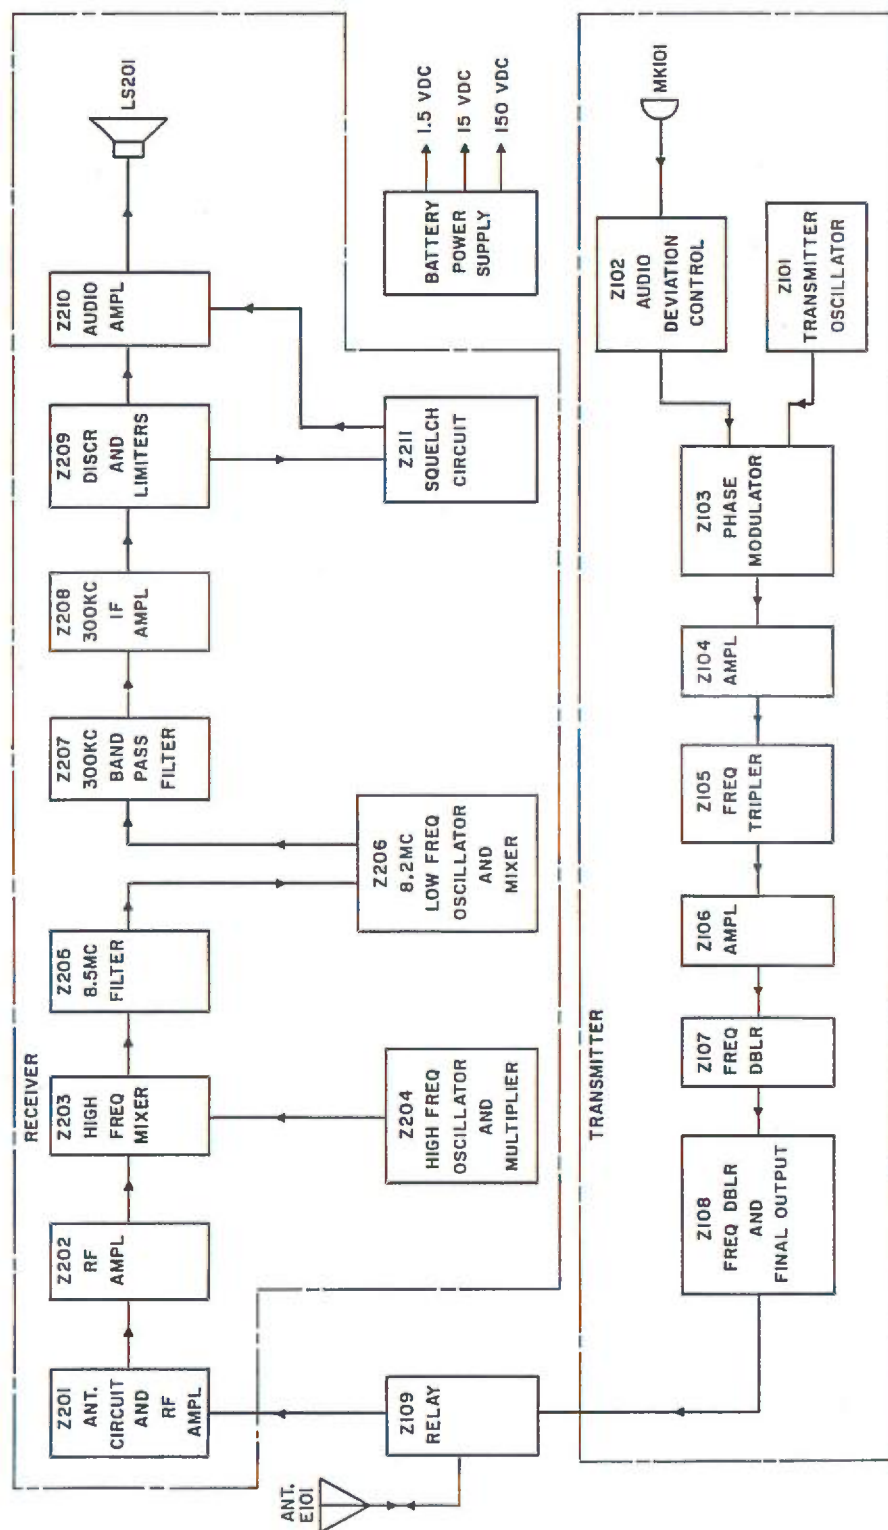

Figure 4-1. Block Diagram of Radio Set AN/PRC-40
Radio Set AN/PRC-40 consists of three functional sections; transmitter, receiver, and battery power supply. The transmitter and receiver are constructed on separate printed circuit boards. Replaceable plug-in assemblies are used throughout the Radio Set. (See table 1-3.) A single antenna is used for both transmitting and receiving. Pushing the "press-to-talk" switch on the microphone actuates a relay which switches the antenna from receiver input to transmitter output. The same relay also switches operating voltages from the receiver to the transmitter. Figure 4-1 is a block diagram of the Radio Set AN/PRC-40. Each block in the receiver and transmitter represents a replaceable plug-in assembly.
a. TRANSMITTER.-The transmitter (figure 4-1) is a phase modulated or indirect FM type. The transmitter consists of nine replaceable plug-in assemblies (Z101 through Z109, including relay circuit Z109), antenna E101, and microphone MK101. Depressing the "press-to-talk" switch on MK101 energizes the relay Z109 which applies operating voltages to the transmitter and switches the antenna E101 to the transmitter output Z108. Speaking into the microphone applies an audio signal to the deviation control Z102. The audio signal is clipped and shaped in Z102 and then applied to phase modulator Z103 where it modulates the RF carrier. The RF carrier is generated in the transmitter oscillator Z101. The oscillator is crystal controlled. The output of the oscillator is applied to phase modulator Z103.